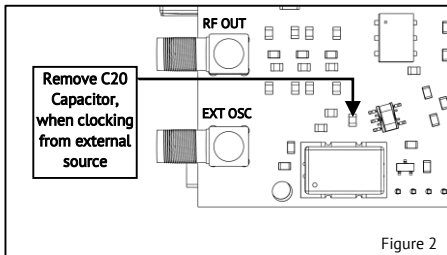

Figure 2
- Using an external source, when using it, **make sure that capacitor C20 is removed** (Figure 2).
**that capacitor C20 is removed** (Figure 2). The level of the external clock signal must be within the range of -10 dBm to +4 dBm for a sinusoidal signal. For example, if the signal level from an external generator is +10 dBm, it is necessary to connect it only through an attenuator of at least 6 dBm ( $10 - 4 = 6$ ). For signals of other waveforms, such as a clipped sine or square wave, the level must be  $0.2 - 1 V_{pp}$ .